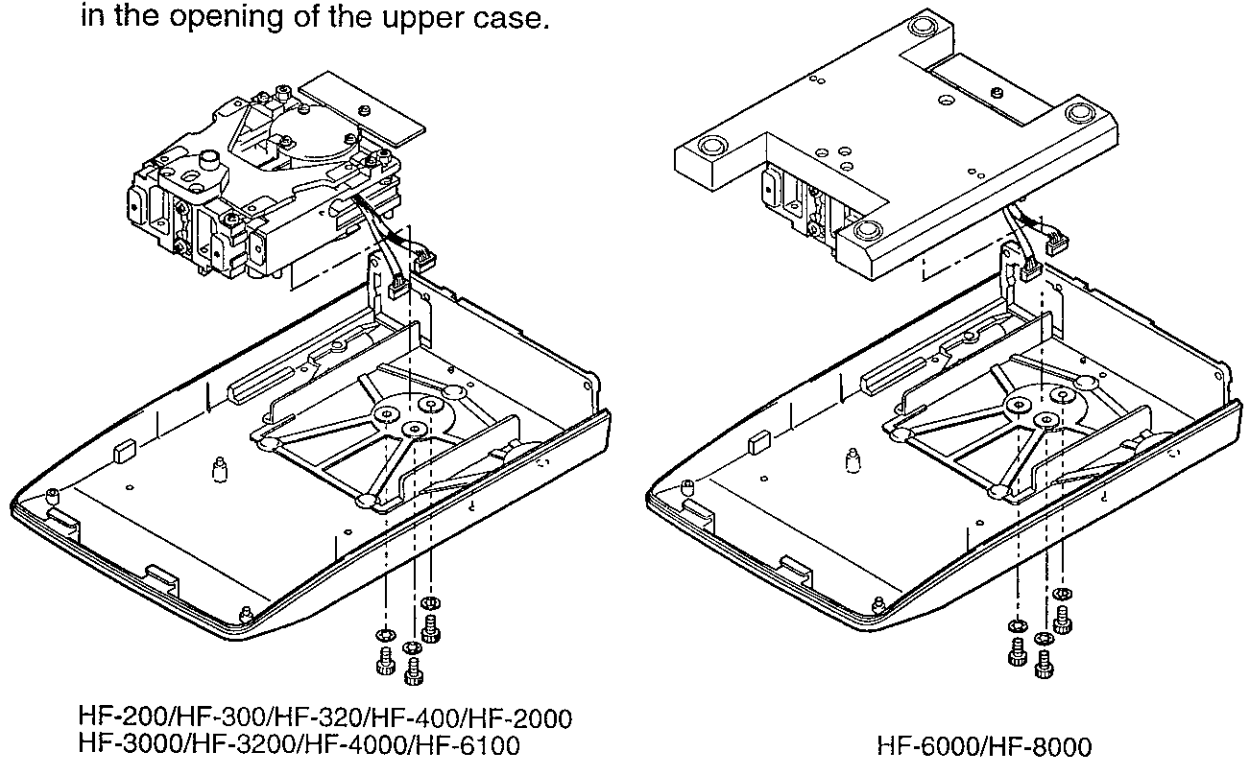

Fig 38
Step 16. Position the force motor in the lower case and fasten it with three screws (Fig 38) removed earlier. It may be necessary to loosen these screws to correctly position the force motor with the upper case in place. In this case, center the pan support receiver in the opening of the upper case.